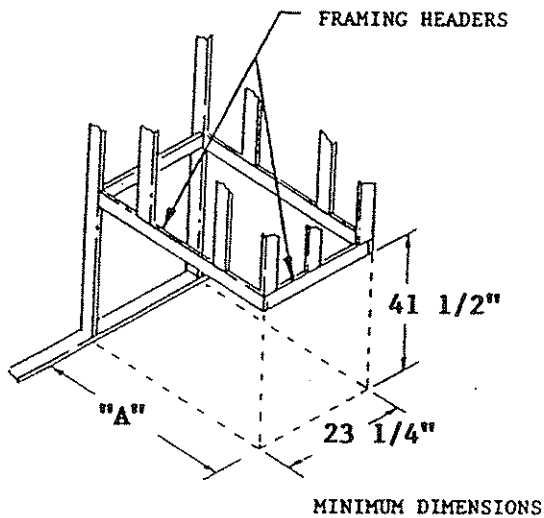

FIGURE 1
The control system for this model is a millivolt type. It consists of a gas control valve/regulator, a standing pilot assembly, a thermopile, a piezo ignitor, an ON/OFF rocker switch, and a safety high temperature limit switch. An ON/OFF Wall Switch (WSK-21) and instructions for wiring it to the control system are also included with the unit. The controls are located in the lower compartment behind the trim door of the fireplace. Access to this compartment is gained by opening the bottom panel of the trim door. See Figure 1, 2, and 3.
**INITIAL SET-UP:** Alternately place a single layer of dime size and shape pieces of Golden Ember (GE-93) and Glowing Ember (050-721) onto the top of the lower burner. See Figure 1.
- Figure 1 and Table 1 show minimum framing dimensions for Models Pier-TR and R-3DVF.